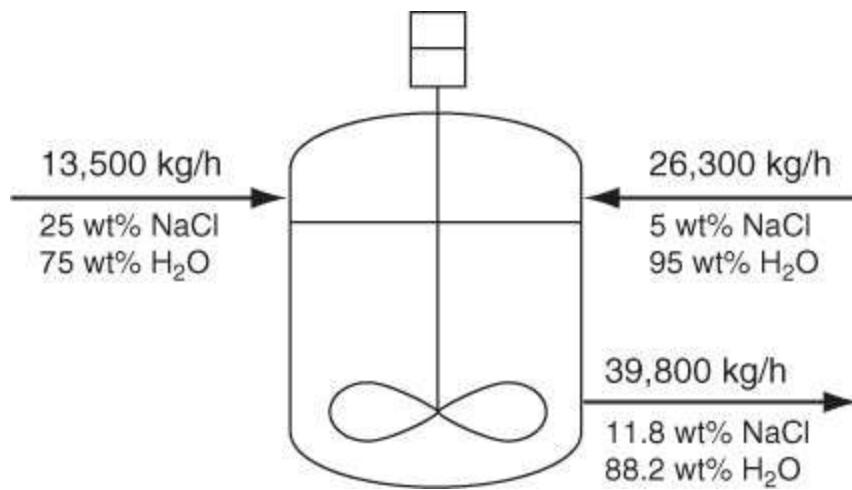

Figure P3.1.19
**3.1.19. Mixers can be used to mix streams with different compositions to produce a product stream with an intermediate composition. Figure P3.1.19 shows a diagram of such a mixing